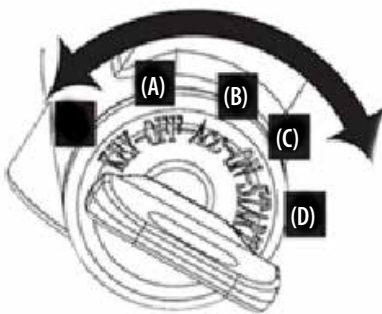

Figure 3-3
3. Insert the key into the ignition and turn it to START position. Release the key when the engine starts. See Figure 3-3.